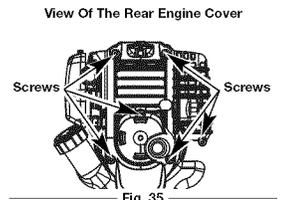

Fig. 35
- Remove the six (6) screws on the back of the engine cover with a Flat-head or T-25 Torx screwdriver (Fig. 35).
- Remove the engine cover (Fig. 35).